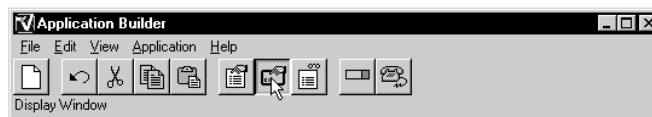
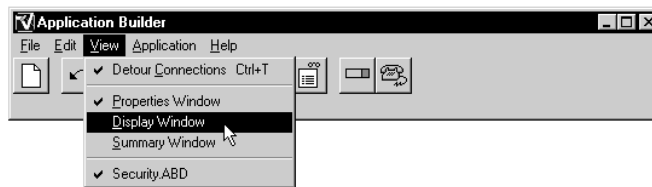

Figure 4-60 Click Display Window
Figure 4-61 View Menu - Display Window Command
34. Open the **Display** window by clicking **Display Window** (Figure 4-60) or by choosing **Display Window** from the **View** menu (Figure 4-61).